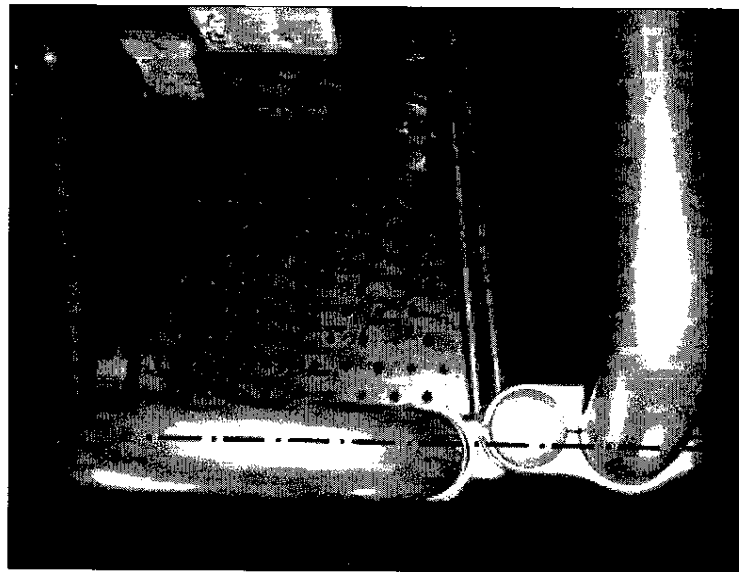

Figure 8
31. Looking down at the top of the gate, a properly installed hinge assembly will look like Figure 8. Note that the gate rests in a straight line with the hinge clamps.